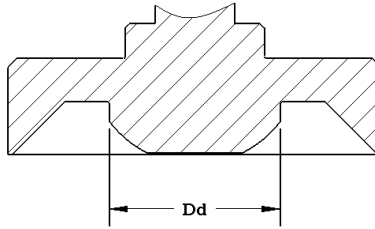

Figure 23: Critical Disk Dimension
4. Referring to Figure 23, measure the diameter  $D_d$ . This diameter must be within the range of values listed in Table 4.